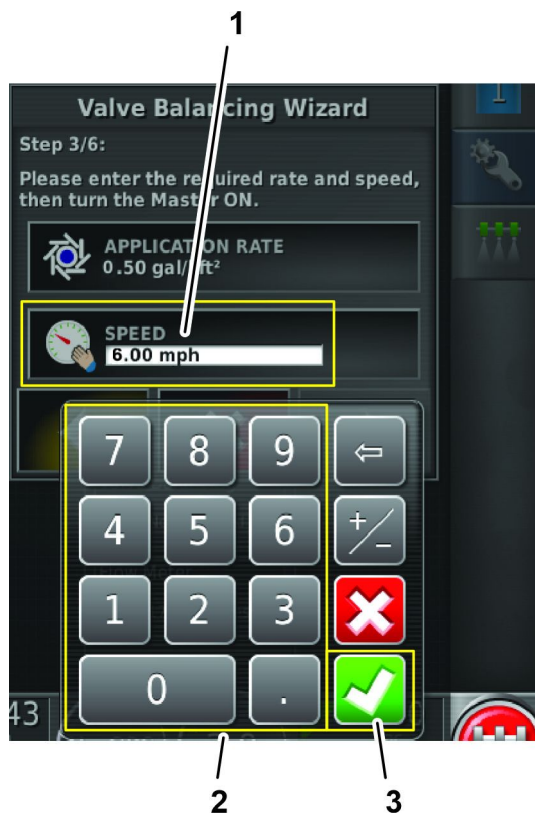

Figure 138
7. Use the numeric pad to enter the ground speed at which you will spray, and then press the confirm icon (Figure 138).